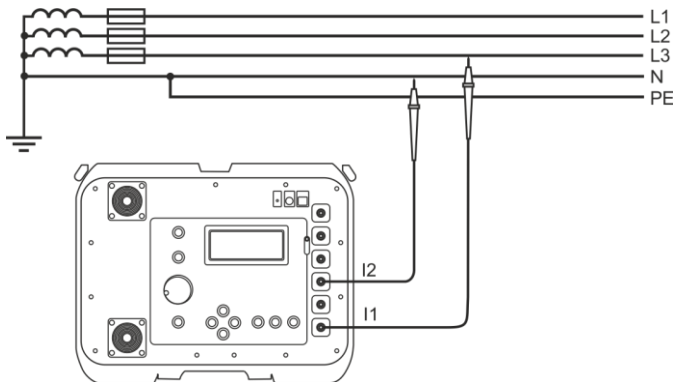

Fig. 17 Measurement of impedance in working circuit (L-N) using two-pole method
- connect the test leads to the sockets:  $I_1$  (**2p**) and  $I_2$  (Fig. 17-Fig. 20),